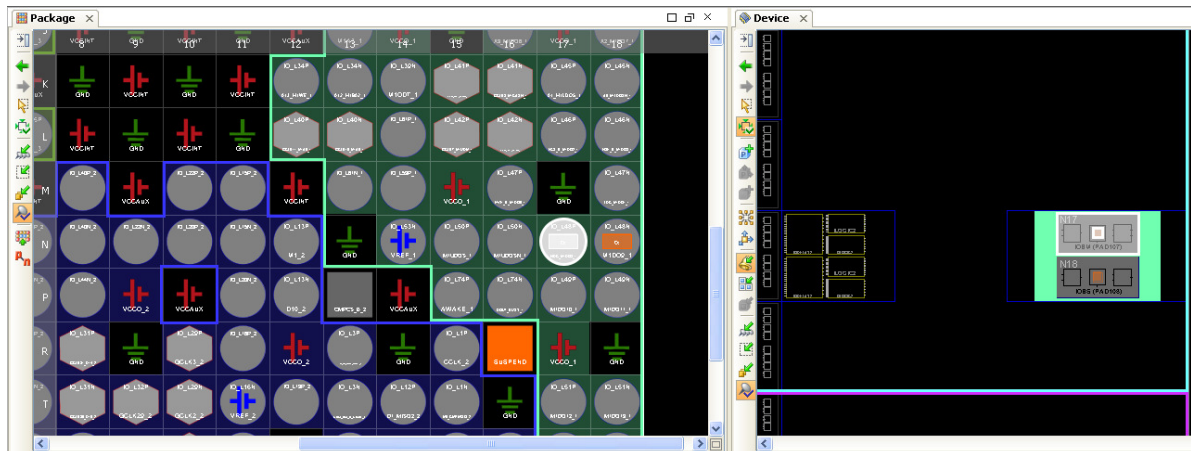

Figure 7. Device and Package Windows
- 3-2-1.** In the I/O Ports window select a pin (e.g. rx) and click on Fit Selection button (). Notice that the FloorPlan window shows the selected I/O and the Device Package window shows the (Figure 7).